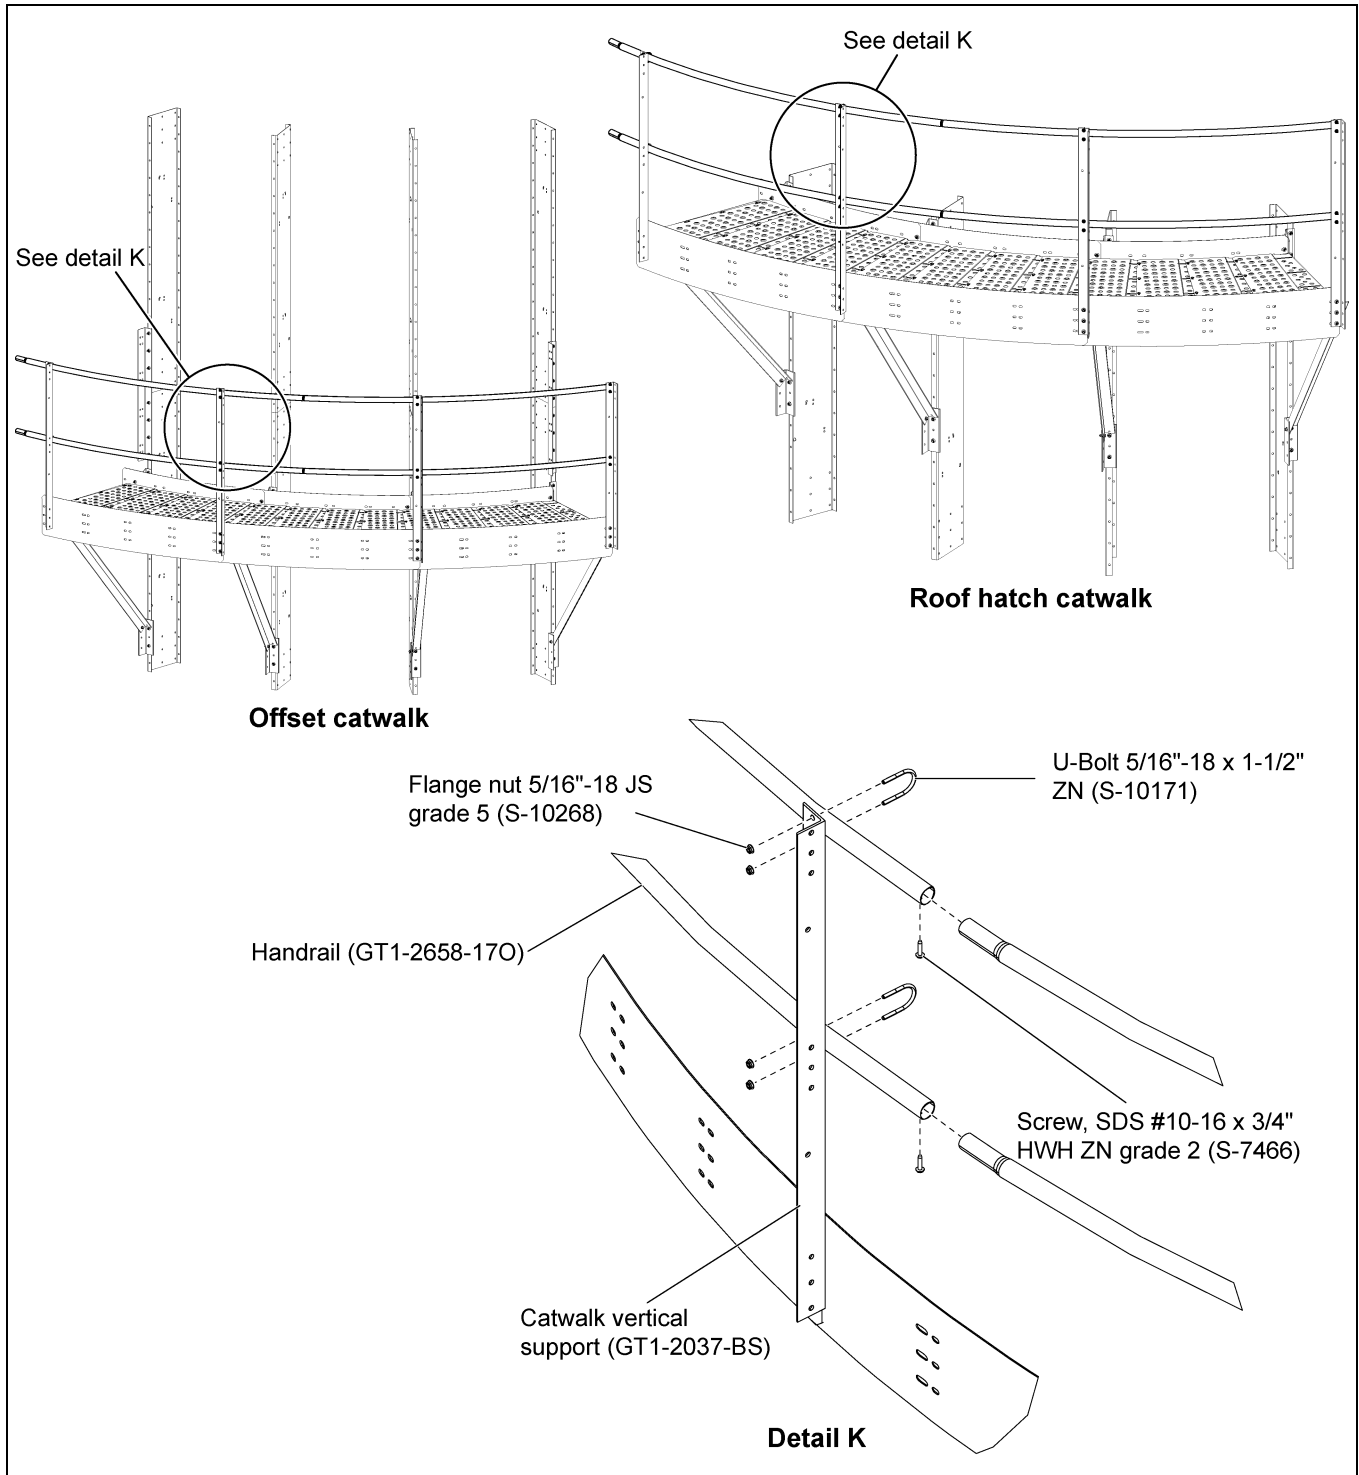

Figure 6U Handrail (GT1-2658-170) Installation for Offset and Roof Hatch Catwalks
1. Install the long handrail (GT1-2658-170) to the catwalk vertical support (GT1-2037-BS) using 5/16"-18 ZN U-bolts (S-10171) and 5/16"-18 JS grade 5 nuts (S-10268) to tighten the handrail with vertical post. (See Figure 6U.)
2. Use the self-tapping screws SDS #10-16 x 3/4" HWH ZN grade 2 (S-7466) at all handrail pipe joints. (See Figure 6U.)